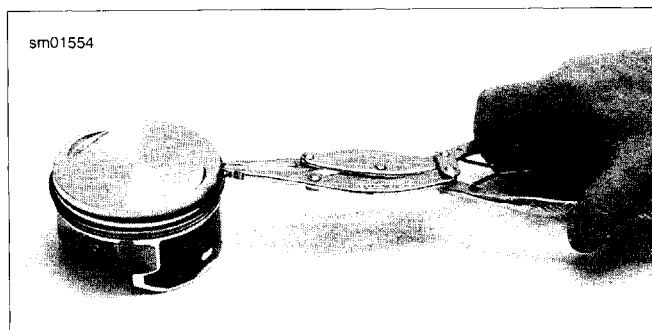

Figure 3-143. Installing Piston Rings (typical; XL model shown)
4. See Figure 3-143. Use a piston ring expander tool to slip compression rings over piston into their respective grooves. Install second compression ring first, then top compression ring. Be extremely careful not to over expand or twist rings, or damage piston surface when installing rings.